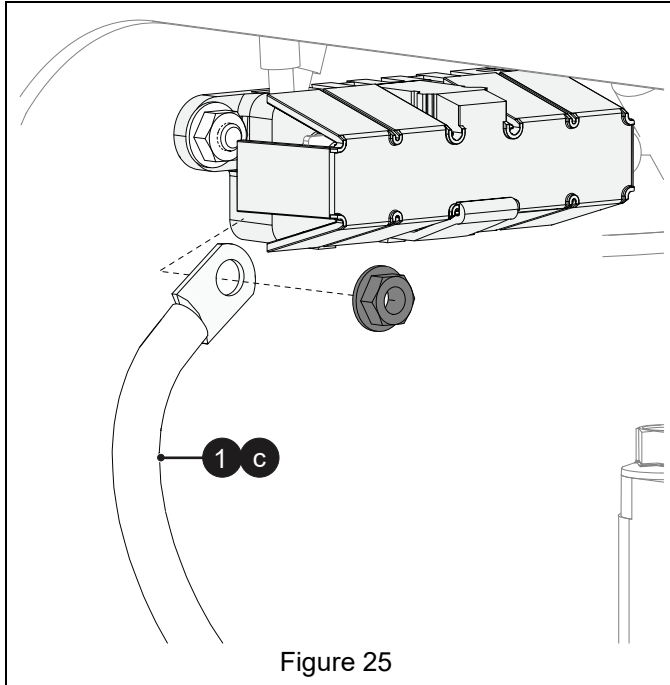

Figure 25
10. Position accessory harness positive (red) cable at 100-amp fuse block. Remove and retain rear hex nut from fuse block. Secure positive (red) cable to rear bolt (battery +) of fuse block with hex nut just removed. See Figure 25.